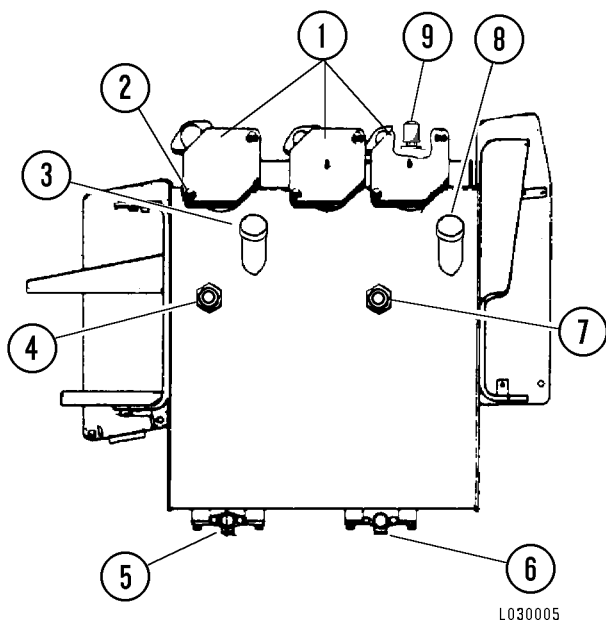

FIGURE 4-3. HYDRAULIC TANK
2. Turn the oil filler cap (3, Figure 4-3) slowly counterclockwise to release internal tank pressure.
2. Turn the oil filler cap (8, Figure 4-3) slowly counterclockwise to release internal tank pressure.
3. Fill tank with recommended oil until oil is visible in the sight glass (7). To reduce rear brake "squeal", use ONLY SHELL DONAX - TD Oil or BP TRACTRAN UTH. If these oils are not available, use Lube key "C".
2. Turn the oil filler caps (3 & 8, Figure 4-3) slowly counterclockwise to release internal tank pressure.
3. Remove bolts (2) on filter covers (1).
5. Thoroughly clean filter housings, covers (4) and bypass valve (3) components.
6. Install new elements. Install bypass valves and covers. Tighten bolts (2, Figure 4-3) to standard torque.
2. Clean dirt accumulation from area of breather (9, Figure 4-3).
5. Start engine and check for leaks before releasing truck for service. Check hydraulic tank oil level; oil must be visible in sight glass (4, Figure 4-3).